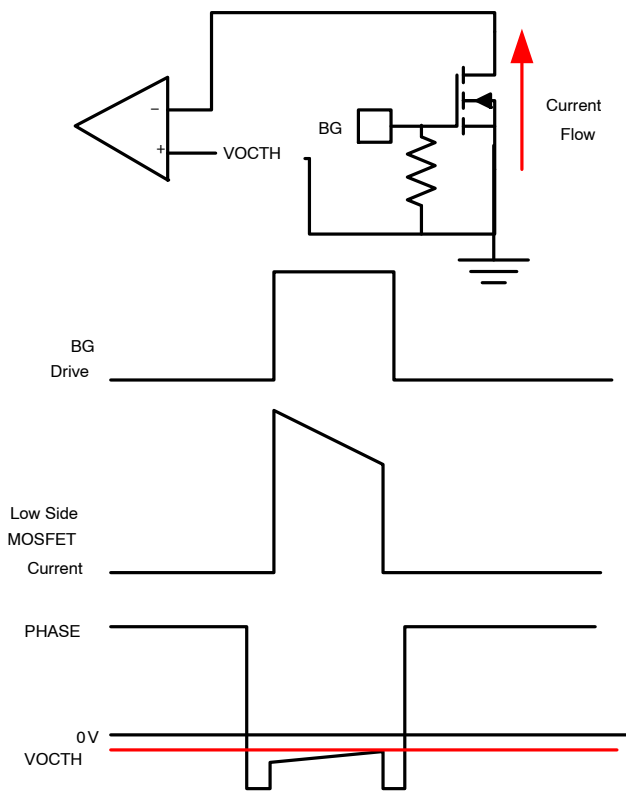

Figure 20. Current Limit Trip
In case of a short circuit or overload, the low-side (LS) FET will conduct large currents. The regulator will latch off, protecting the load and MOSFETs from excessive heat and damage. Low-side  $R_{\text{DS(on)}}$  sense is implemented at the end of each LS-FET turn-on duration to sense the current. While the low side MOSFET is on, the  $V_{\text{SW}}$  voltage is compared to the user set internally generated OCP trip voltage. If the  $V_{\text{SW}}$  voltage is lower than OCP trip voltage, an overcurrent condition occurs and a counter counts consecutive current trips. If the counter reaches 7, the PWM logic and both HS-FET and LS-FET are turned off. The regulator has to go through a Power On Reset (POR) cycle to reset the OCP fault as shown in Figure 20.